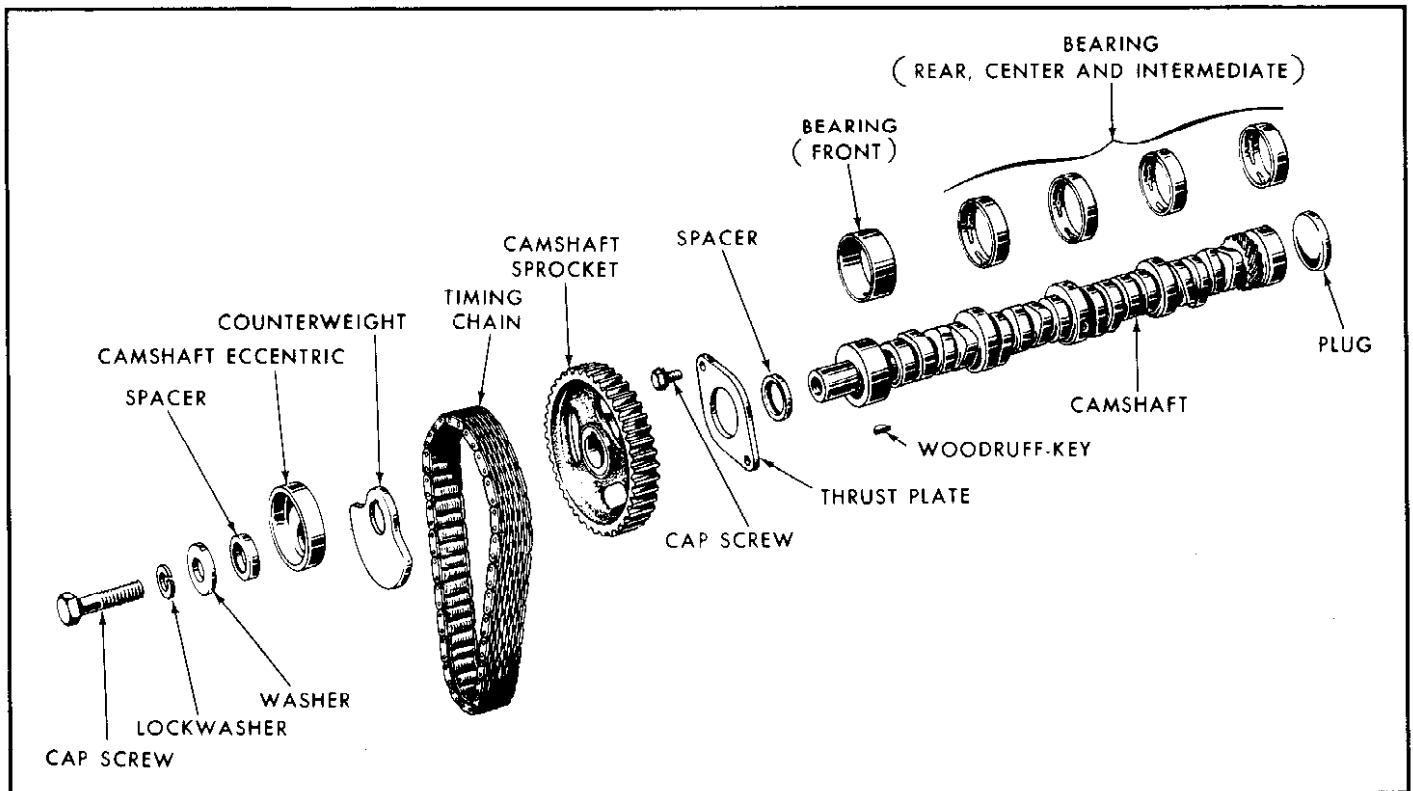

Fig. 6A-29—Camshaft and Related Parts
9. Check alignment of timing marks. Refer to figure 6A-22. Check timing chain outward deflection. Rotate crankshaft to take up slack in driving side of chain and establish the straight position. Rotate crankshaft in opposite direction to take up slack in opposite side of chain. Pull chain outward with fingers. Measure outward deflection of chain. There should not be more than 1/2 inch difference between the chain straight position and the position of the chain deflected outward. Refer to figure 6A-23.